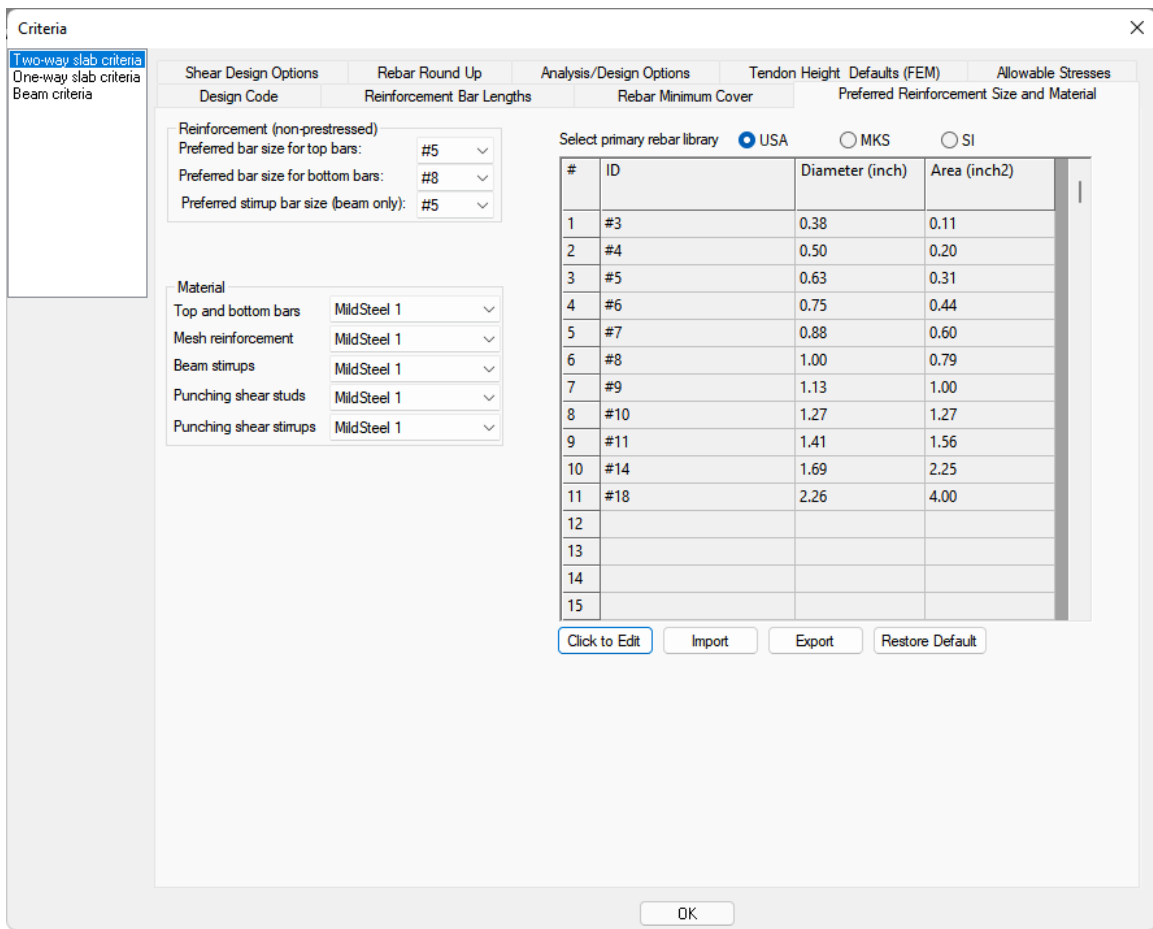

FIGURE 2-13
- Click on the **Preferred Reinforcement Size and Material** tab. This will open the window from **FIGURE 2-13**.